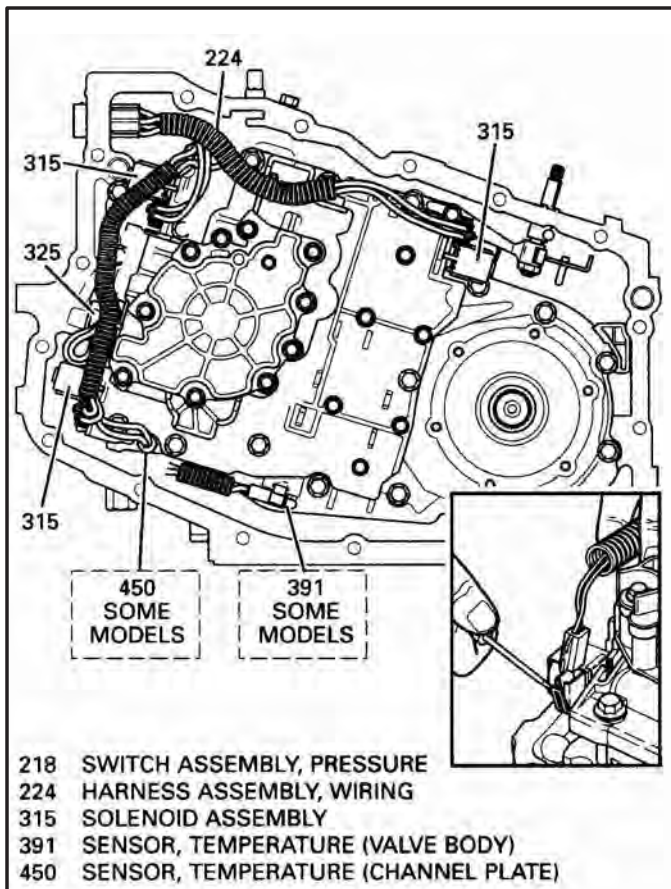

Figure 210
88. Install the internal wiring harness using small screwdriver, if necessary, to install connectors on solenoids, as shown in Figure 210.